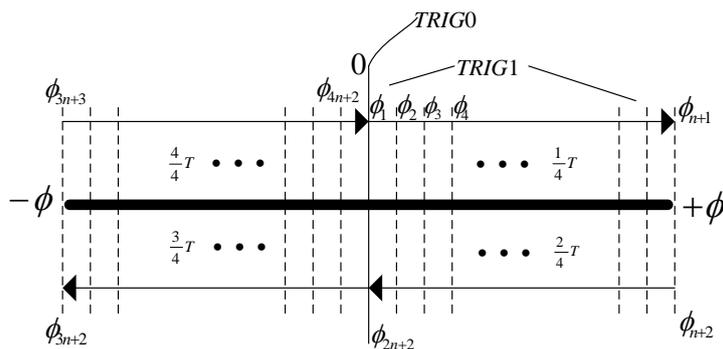

Figure 3-5 A period is divided into four parts
Generally, the scan angle is  $2\Phi (\pm\Phi)$  and the incremental angle of angle marking pulse is  $\delta$ . In order to simplify the process of calculating the real-time scan position of the MEMS mirror, divided a period (T) into four parts as shown in Figure 3-5.
The example that shown in figure 3-5 has 11 angle marking pulses (from TRIG1).
During this 1/4 cycle, the MEMS mirror will return to the zero position at the end. However, only the angle marking pulse will be output at this period. In this 1/4T, there are also N+1 angle marking pulses signal. In figure 3-5, the number of angle marking pulse (TRIG1) is 11.
This 1/4 period is similarly to the first 1/4T. The angle marking pulse will be output when the MEMS mirror scanning an incremental angle of angle marking pulse, and the total number of the pulse during this 1/4 cycle is N. In figure 3-5, the number of angle marking pulse (TRIG1) is 10.
At the end of this 1/4 cycle, the MEMS mirror will return to the zero position. It also means that a new period will start. During this time, the angle marking pulse will keep outputting and the total number of the pulse is N. In figure 3-5, the number of